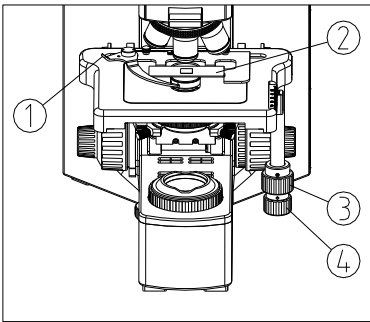

Fig. 12
- (1) Push the wrench ① of the specimen holder backwards. (See Fig. 12)
- (2) Loosen the wrench ①, and clamp the slide ② by the clips while the cover glass faces up.
- (3) Rotate the X-axis knob ④ and Y-axis knob ③. Move the specimen to the center (alignment with the center of the objective).